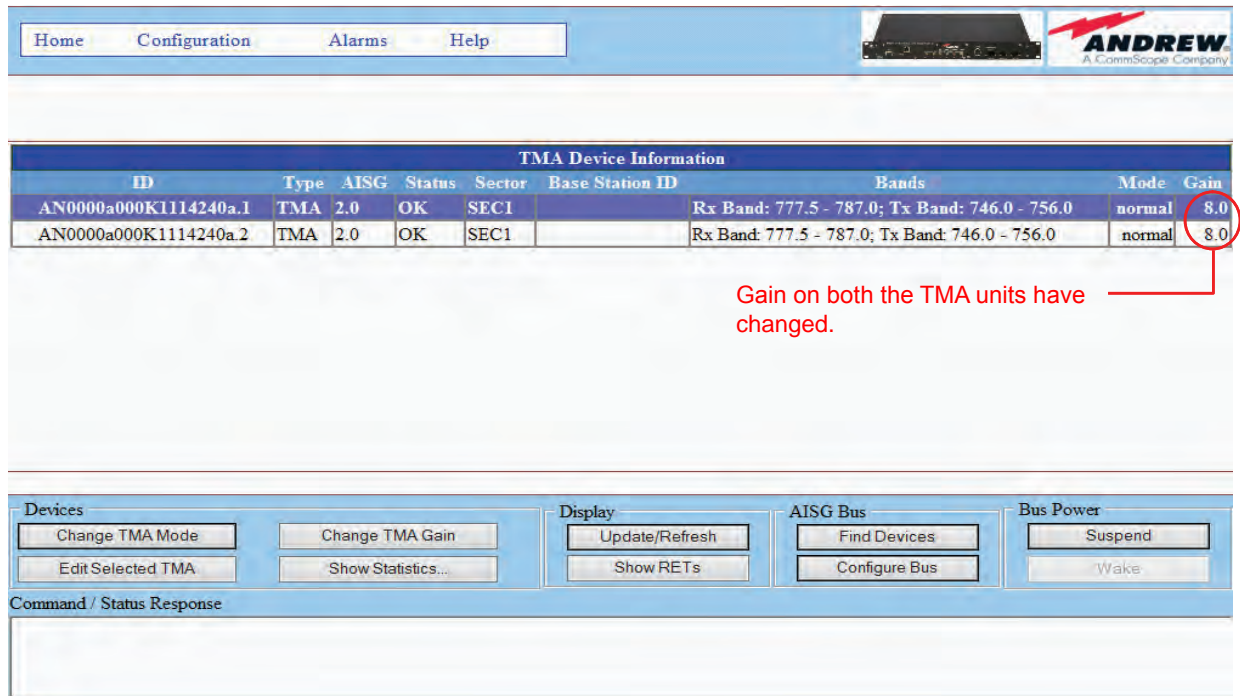

Figure 23-9. TMA Gain has successfully been changed – Main Device Screen.
- Go back to the Home page and click on **Show TMAs**. The new gain value will be reflected for the TMA subunits in the Device Information list. (Figure 23-9)